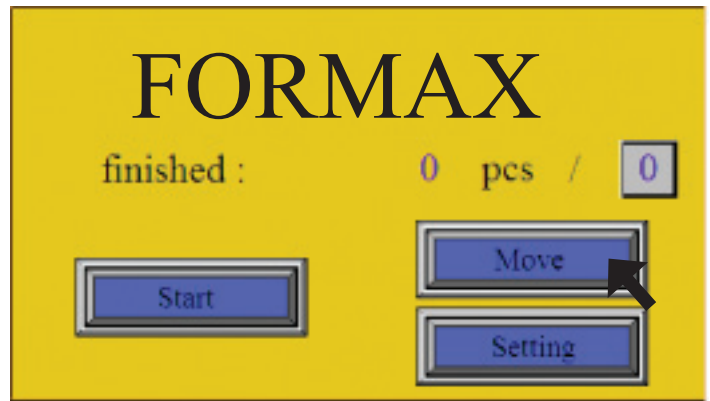
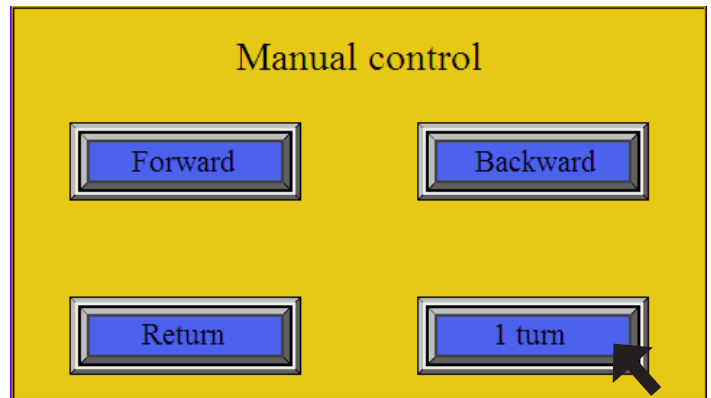

Fig. 2: Main Screen
Fig. 3: Manual control
7. Press the “Move” icon on the Main screen (fig 2) and the following menu comes up – “Manual Control” (fig 3).
8. From the “Manual control” screen press the “1 turn” icon (fig 3) and the control upstroke will be carried out.